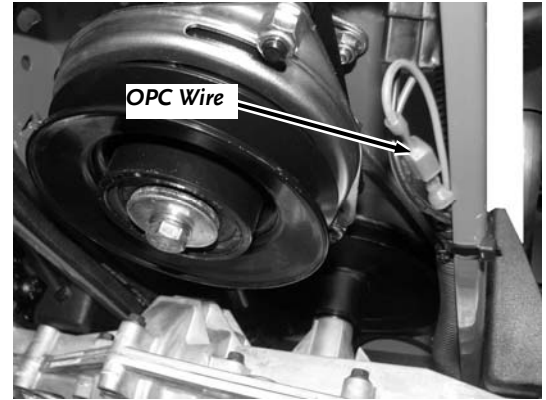
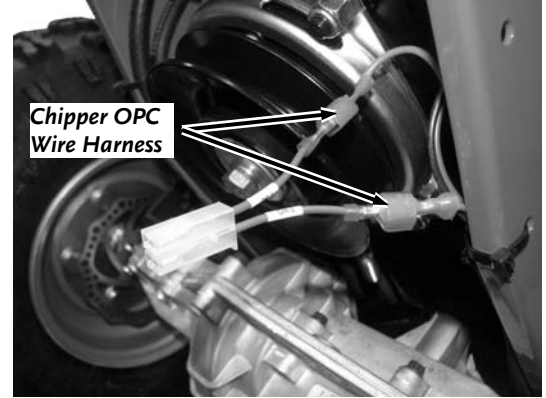

Figure 8
Figure 9
3. Disconnect the OPC Wire on the DR Field and Brush Mower and connect the Chipper OPC Wire Harness from the Product Package. (Figure 8 and Figure 9).